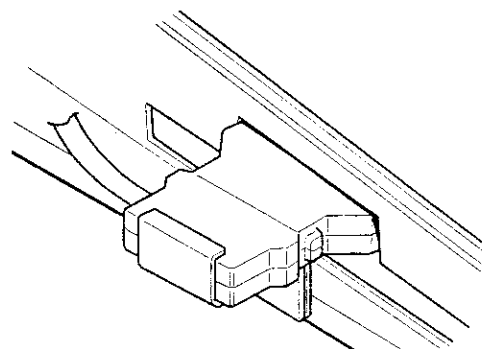

Fig. 6
- 10) Fix the set-screw ②. (See Fig. 6.)